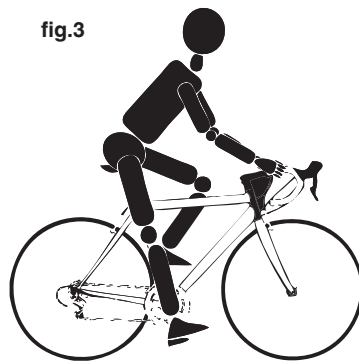

fig.3
1. Up and down adjustment. To check for correct saddle height (fig. 3):